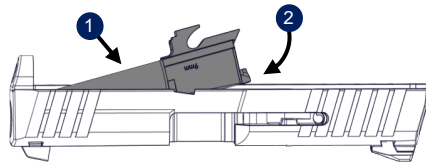

Fig. 21
1. Insert the muzzle end of the barrel into the slide, then seat the barrel in the slide into its rearmost (locked) position (Fig. 21).